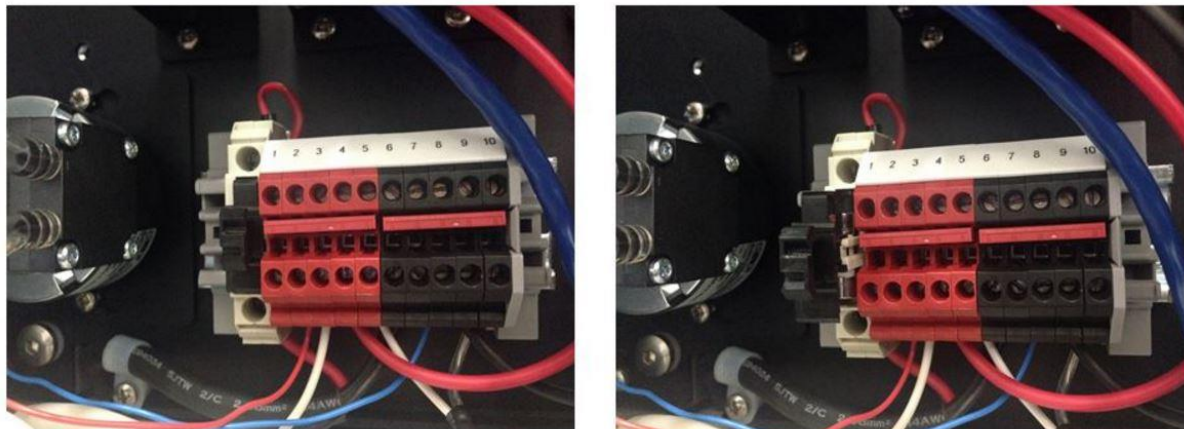

Figure 0-3 The 12V DC fuse can be pulled out to turn off the AQM or pushed in to power the AQM 65
- ⚠ If you wish to test 12 DC power to the rest of the AQM 65 now, then you should remove the power connection to the PM electronics module, otherwise you could damage the optical engine. Pull the power connection out from the PM pump module as shown in Figure 0-3 on the left.
Once you have removed the PM power then push in the 12 DC fuse to the “on” position as shown in Figure 0-3 on the left.